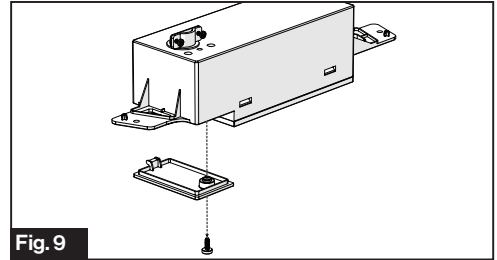

Fig. 9
- Remove the cable compartment cover using a Phillips screw driver. (Fig. 9)